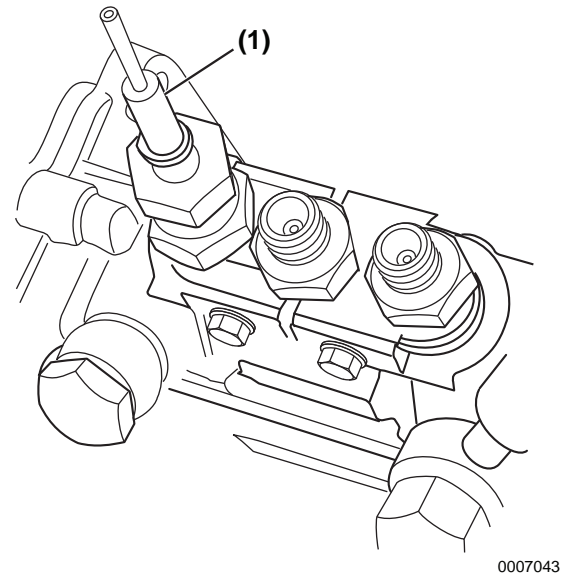

Figure 7-23
14. Install the “spill-timing” tool (Figure 7-23, (1)) onto the delivery valve for the cylinder being checked. See *Measuring Instruments* on page 7-7.